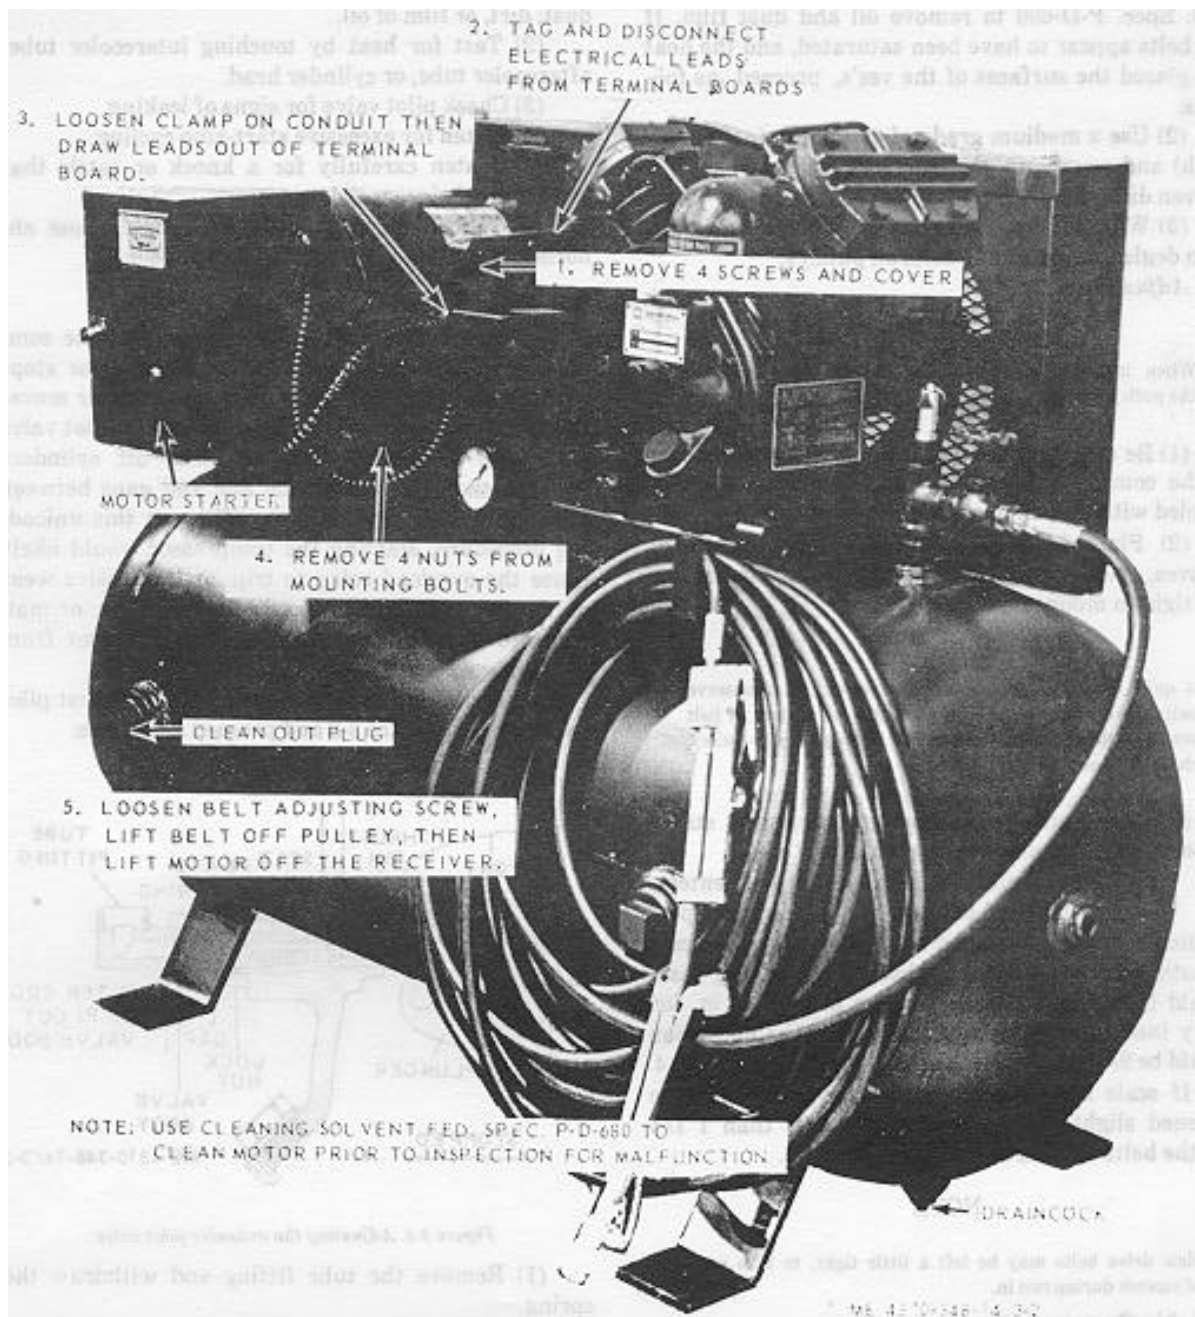

Figure 3-2. Motor, cleaning, removal and installation
(1) Remove dust and dirt from motor with compressed air. Use a cloth dampened in cleaning solvent, Fed Spec P-D-680 to wipe off the stator frame.
(2) Use the same method of cleaning on end covers and the motor starter. Refer to figure 3-2 for locations.
(1) TURN ON-OFF switch to OFF.
(2) Open draincock at bottom of the air receiver (fig. 3-2), under the service line.
(3) When air has escaped, leave draincock open for a few minutes for more of the condensate to escape.
(4) Close draincock.
(5) Be sure that all cloths, tools, etc., have been removed from the air receiver, then move ON-OFF switch to ON.